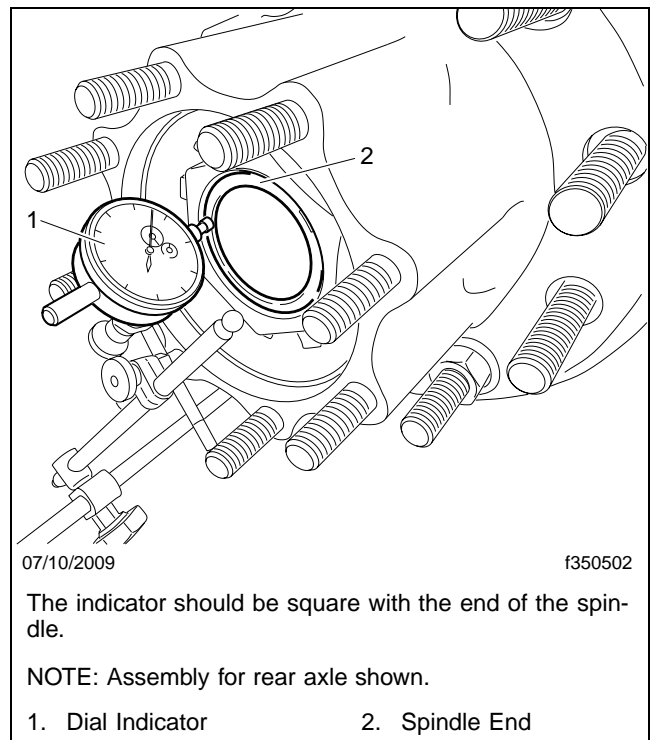

Fig. 27, Indicator Square with the Spindle (rear hub shown)
- 3.4 Set the measuring end of the indicator against the spindle end as shown in **Fig. 27**. The indicator should be square with the end of the spindle.